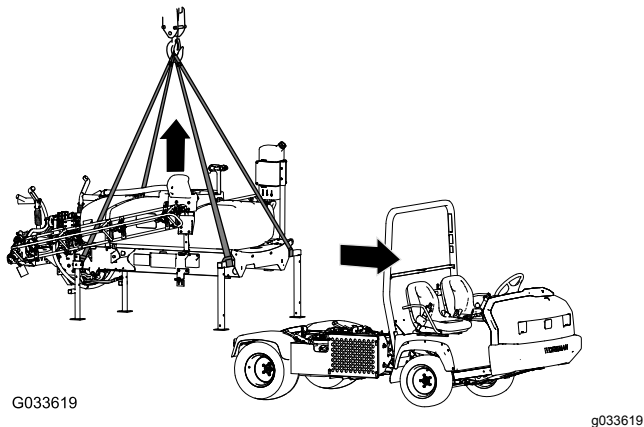

Figure 135
1. Lower the booms to approximately 45° and then pivot them forward (Figure 135).
7. Lift the tank skid from the machine high enough to clear the skid from the machine (Figure 135).
5. Attach the lifting equipment to the horizontal tubes of the forward jackstands and the vertical post of the rear jackstands (Figure 135).